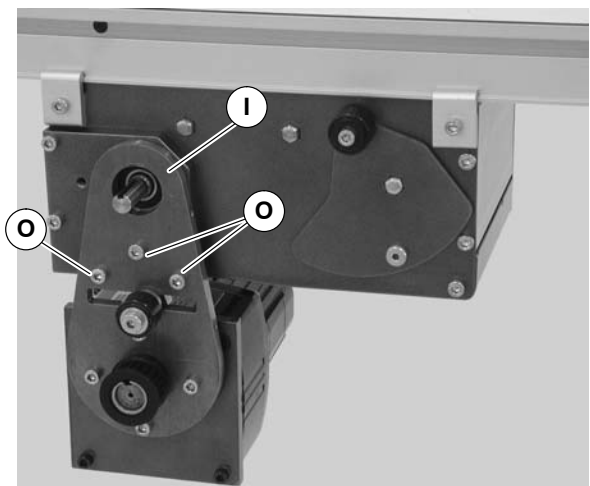

Figure 5
3. Attach mount assembly (I of Figure 5) with screws (O). Install long screws on bottom. Tighten screws to 80 in-lb (9 Nm.).